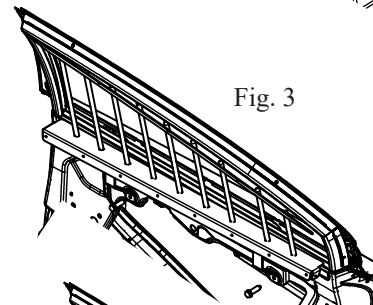

Fig. 3
- B. With the OEM door panel removed, locate the upper bolts holding the window assembly to the door frame. Remove the outside and inside bolts. Place the Window Barrier on top of the rubber trim installed above. Align the mounting tabs with the holes in the window assembly. Using the OEM bolts removed previously, fasten the window armor to the vehicle door. (See Fig. 3)